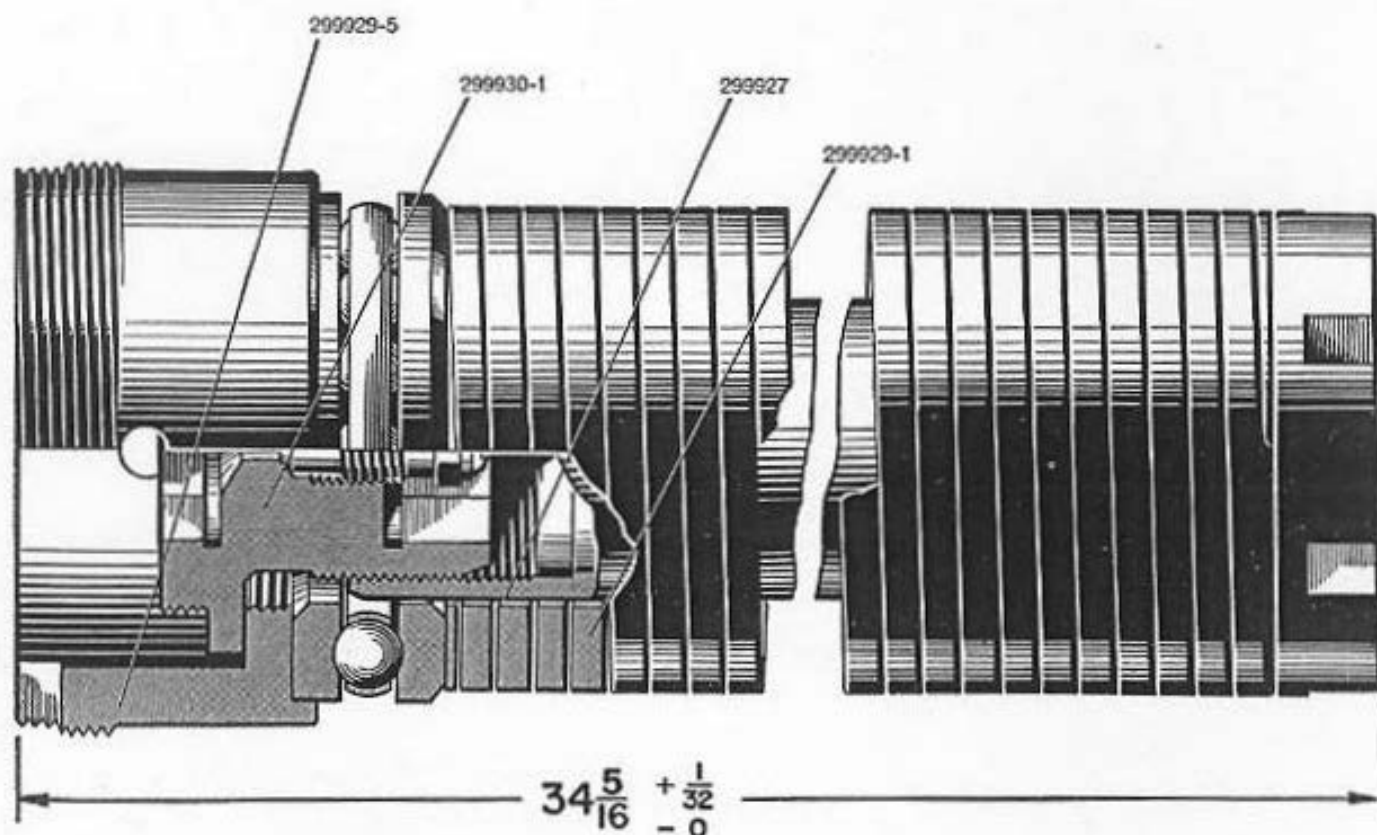

Figure 47—Correct length of ram spring and tube assembly (299928)—retainer plug inverted in safety position
25. Upon removing the ram spring and tube assembly from the compressing tool, check its length against Figure 47. If it does not agree with the length shown, replace the unit in the compressing tool, lock it in place with the tool screw and nut and lengthen or decrease whichever is necessary by turning retainer plug (299930-1) in or out until the proper length is reached.